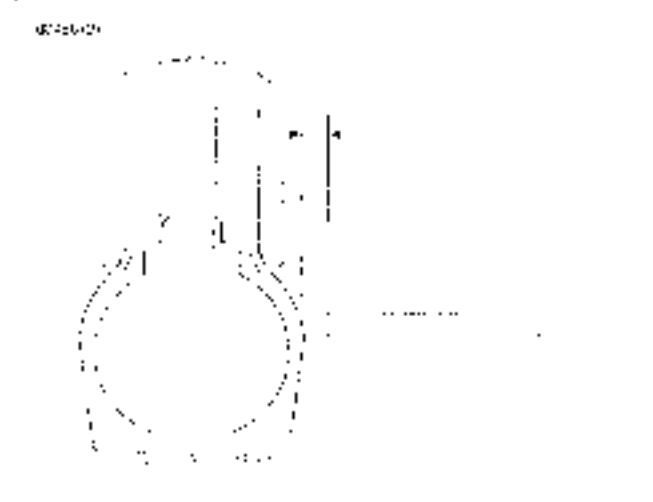

Figure 2-60. Lateral Tire Runout
1. See Figure 2-60. Check runout by turning wheel on axle, measuring tread runout.